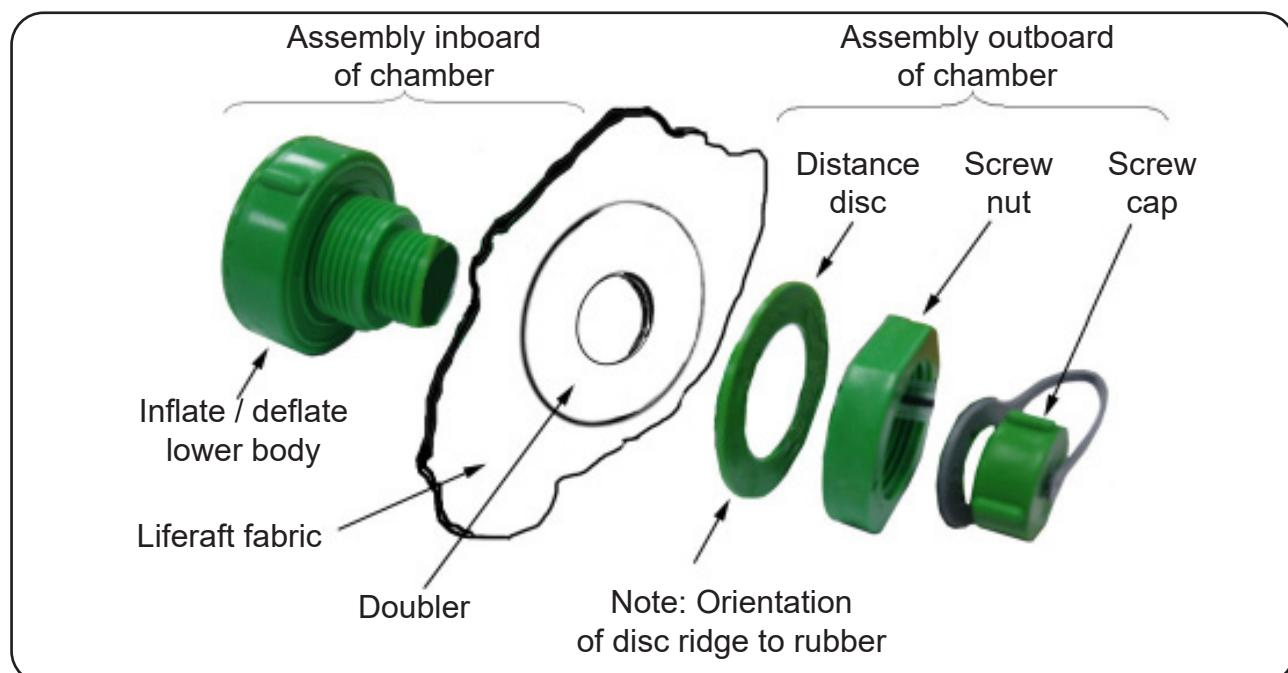

FIGURE 607
6.2.2 Assemble the valve body as shown in FIGURE 607.